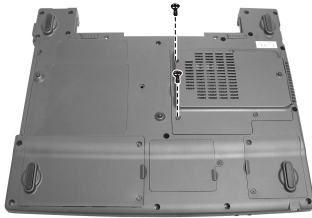

Figure 2-6 Remove two screws
2. Remove two screws fastening the heatsink cover. (Figure 2-6)